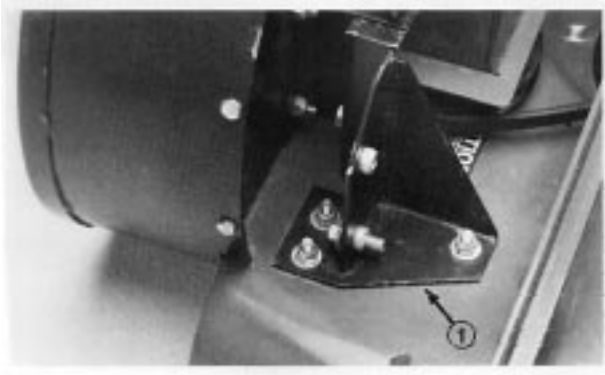

Figure 10
- 19.** Secure front bracket and front baffle to deck with (3) 5/16 x 7/8" (22 mm) carriage bolts and 5/16" lock nuts (Fig. 10)